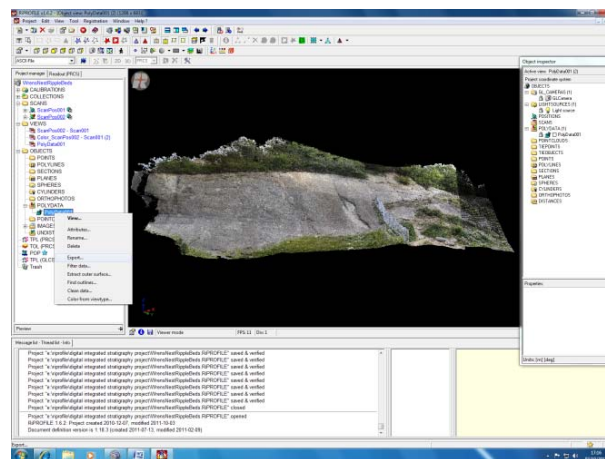
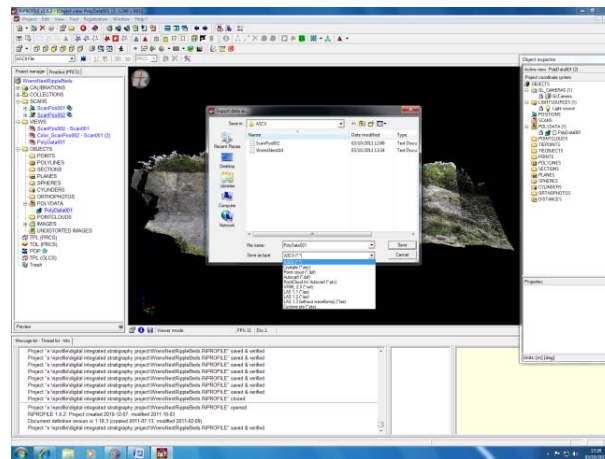
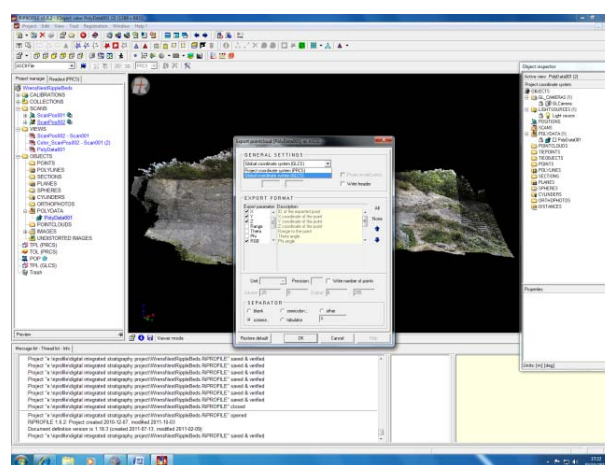

Figure 1 – Export point cloud in RiProfile
Figure 2 – Save as ASCII
Figure 3 – Choose GLCS and x,y,z, with RGB format to preserve colour information
- Then right-click on the PolyData object in Project Manager Window and select 'export' (Figure 1). A box should appear (Figure 2). Select the ASCII option and click 'OK'. Another box will open (Figure 3). In the General Settings heading select the GLCS option. If your project has not been geo-referenced select the project system. Also select x,y,z and r,g,b for the file format to preserve colour information in the point cloud. Save the ASCII to the SPLIT FX folder on the E drive or backed-up Local Server.